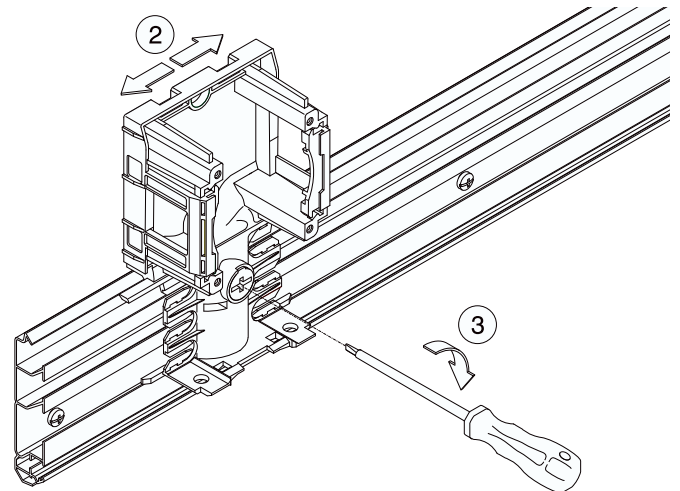

Figure 2
2. Lock the device carrier (fig. 2)